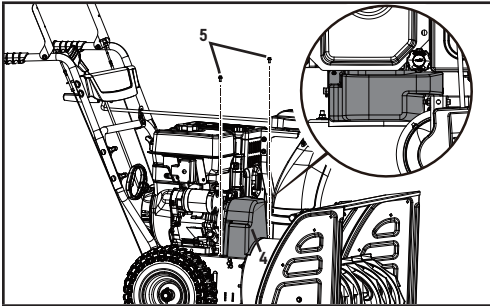

Figure 32
1. Remove the plastic belt cover (4) on the front of the engine by removing two M6 × 16 bolts (5) (Fig. 32).